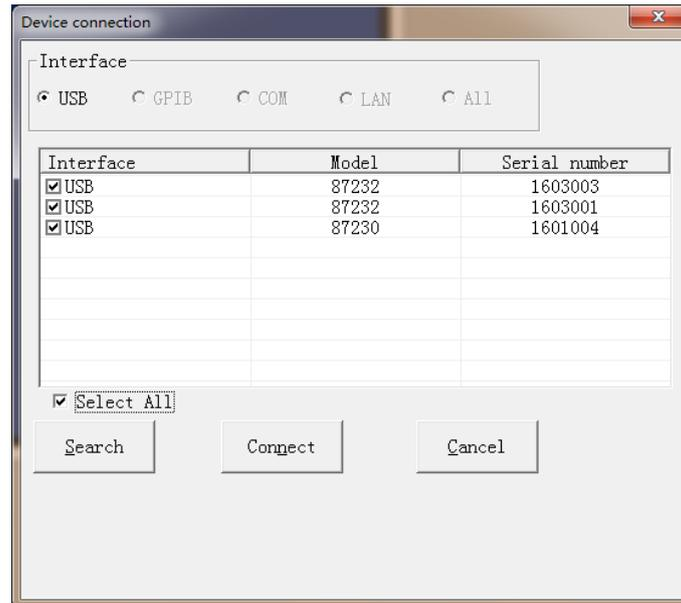

Fig. 3.5 Equipment when Several USB CW power sensors are Connected
Step 1. Open the virtual power test panel, and the system will automatically find the connected USB CW power sensors, and then select all connected power sensors, and click “Connection” button. As shown in Fig. 3.5, the system will automatically display the USB CW power sensor found first and display the measurement results;